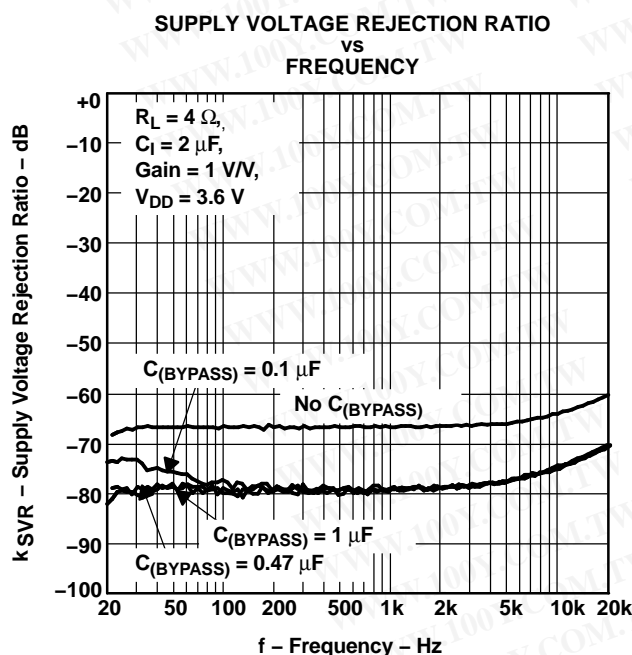

Figure 17.
- **Mid-supply bypass capacitor, $C_{(BYPASS)}$, not required:** The fully differential amplifier does not require a bypass capacitor. Any shift in the mid-supply voltage affects both positive and negative channels equally, thus canceling at the differential output. Removing the bypass capacitor slightly worsens power supply rejection ratio (K_{SVR}), but a slight decrease of K_{SVR} may be acceptable when an additional component can be eliminated (See Figure 17).